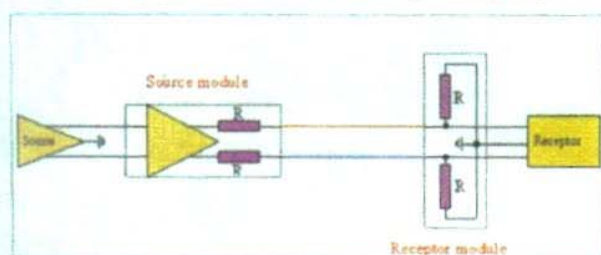

Fig.11 Impedance matching modules.
Fig.11 shows a symmetrical (balanced) matching module. For single-ended (SE) operation, only half the components need be used; eg, only one matching resistor R at both ends.